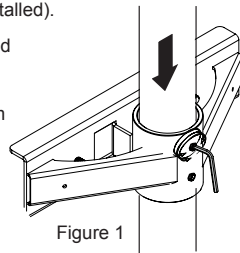

Figure 1
- Slide your mounting arm adapter bracket over the pole and base (Figure 1) (not included, but should be previously installed).